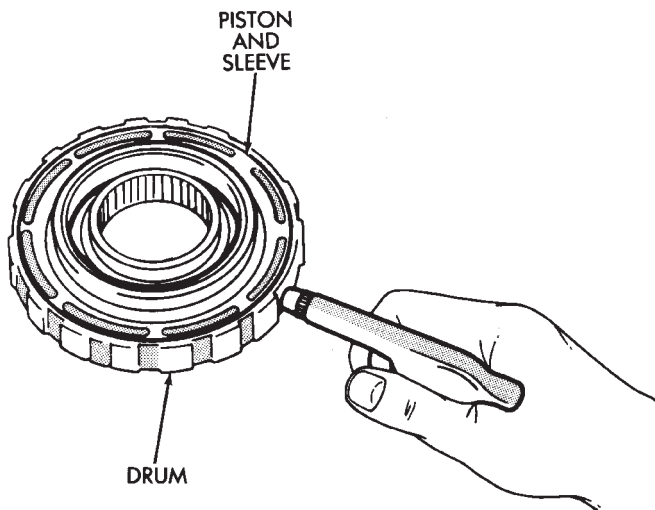

Fig. 5 Removing/Installing Piston And Sleeve
(5) Remove compressor tool and remove spring retainer and return springs.
(6) Remove second brake piston and sleeve from drum with compressed air (Fig. 5). Use only enough air pressure to ease piston out of drum.